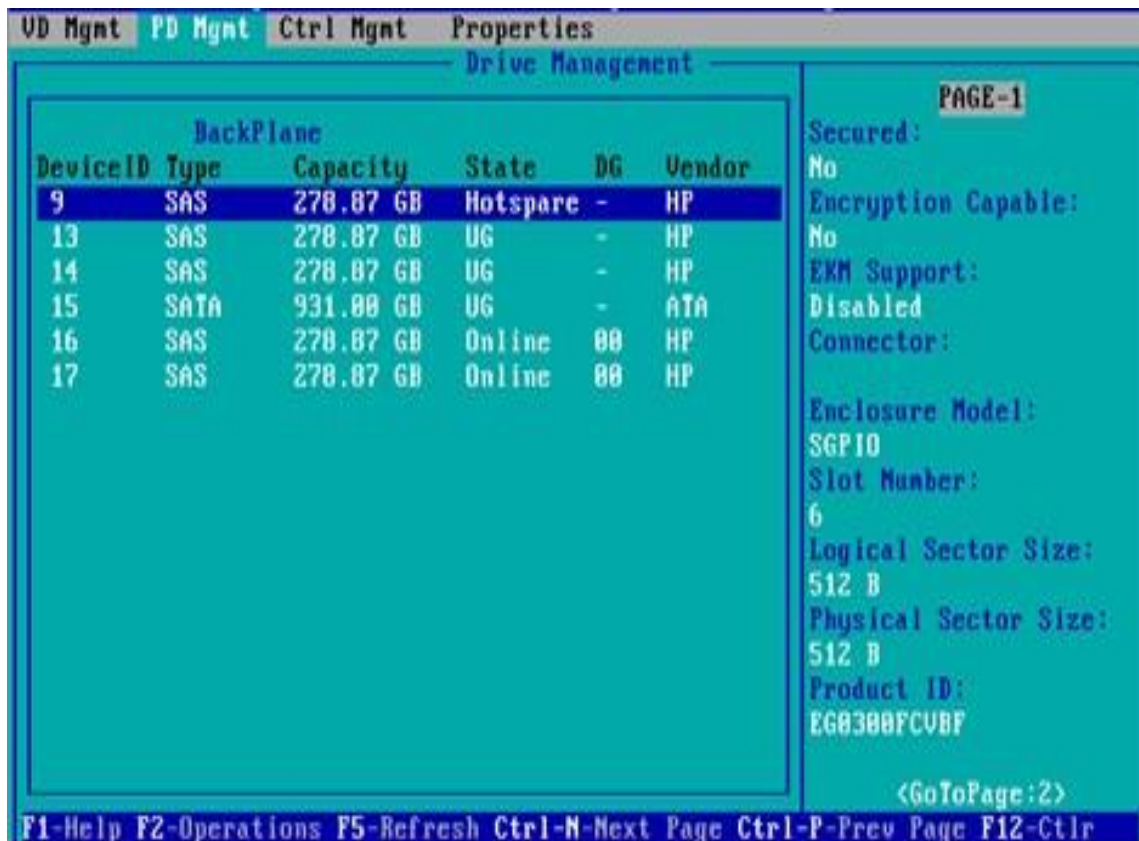

Figure 6-94
c) Return to the interface shown in figure 6-94 and select the hot spare to view the global hot spare information.